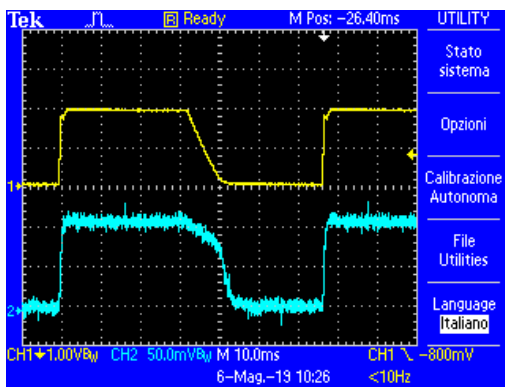

Fig. 4a
- Check that the resulting values are correct respect values in the table below and then check the wave-length by comparing it to the typical wave-lengths shown in figures 4a (60 kV) and 4b (100 kV).